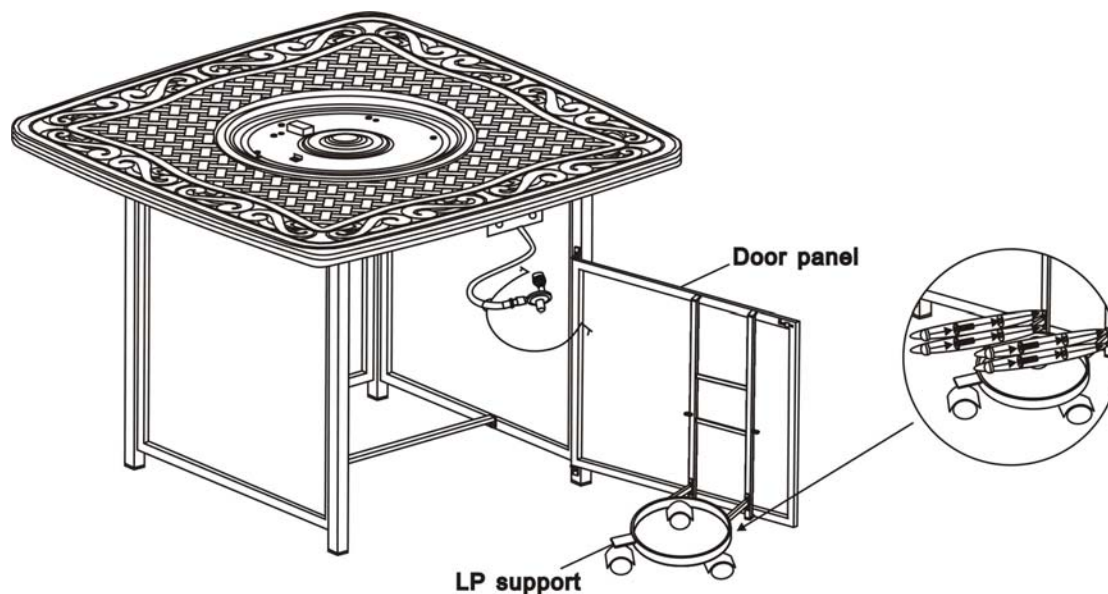

Figure 7
7. Attach the LP support to the door panel by using four 1/4"x15 mm bolts and washers as shown in Figure 7. **Do not over tighten.**